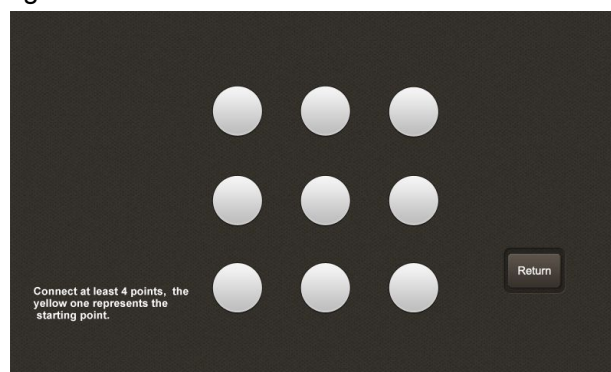

Figure 2-14
1.After opening the lock screen, user will enter the lock pattern setting interface. As shown in figure 2-14: